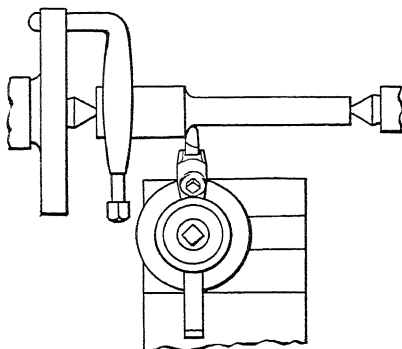

FIG. 88.—Shows tool post on left-hand side of tool rest. In this position there is less tendency to feed so far that the dog will strike the tool rest.
2. The tool post should be located at the *left-hand end* of the T-slot in the tool rest (Fig. 88). If it is clamped in the middle or right-hand end of the slot the danger of the dog hitting the tool rest is greatly increased. If the dog hits the tool rest when the lathe is running, the point of the live center will be broken off and the center hole in the work spoiled.